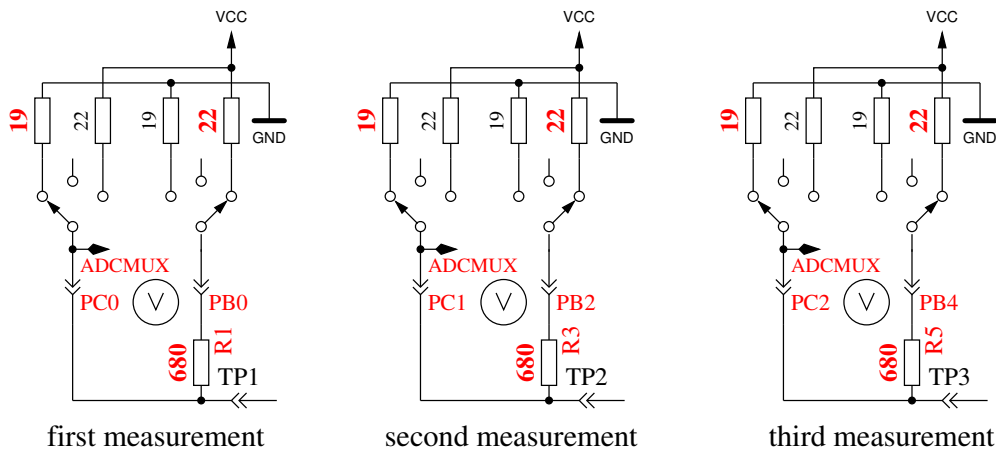

Figure 5.63. Measurement of internal resistance of Port C switched to GND
5. **This step tests the capability of GND (-) connected 470kΩ resistors (H) to pull the test pins to GND.** Row 1 shows the text “RH-”. Row 2 should display zero for all three pins.
6. **This step tests the capability of VCC (+) connected 470kΩ resistors (H) to pull the test pins to VCC (+).** Row 1 shows the text “RH+”. The results are shown als difference to VCC and should be near zero. Great differences from the best value for test 5 and 6 are errors such as isolation problem, flux material or damaged port.
8. **Measuring of internal resistance of pin output switched to the GND signal.** This test and the follwing tests will only be done, if the option AUTO_CAL is selected. The internal resistance of the port C outputs switched to GND (-) are measured with the current of to VCC (+) switched 680Ω resistors, see Figure 5.63. Only the three pins of the ADC port are measured, the resistor port B (PB0,PB2 and PB4) can not be measured without hardware modification. Is is assumed that the port resistance of the different ports are nearly identical. The resistor value will be shown in the next test.